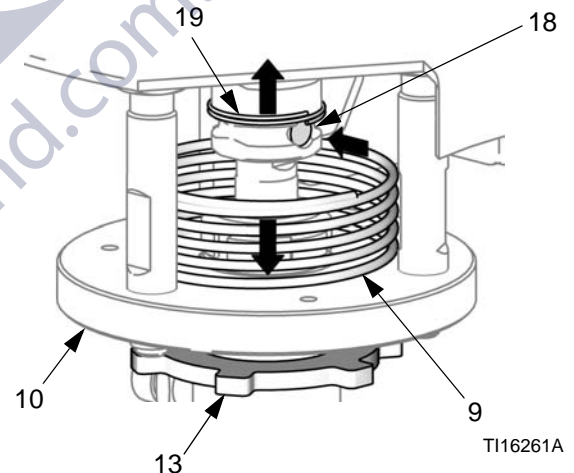

FIG. 6. Safety Spring and Connecting Pin
- See FIG. 6. Push the safety spring (9) down and hold to access the coupling pin (18). Push the retaining spring (19) up and push out the pin, using a screwdriver or punch.
- Loosen the jam nut (13).